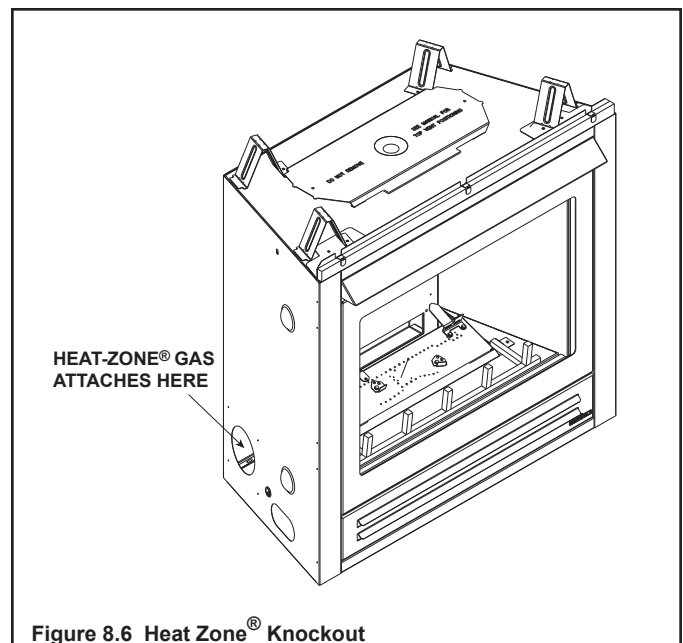

Figure 8.6 Heat Zone® Knockout
- Remove the knockout from the fireplace and discard it (see Figure 8.6).